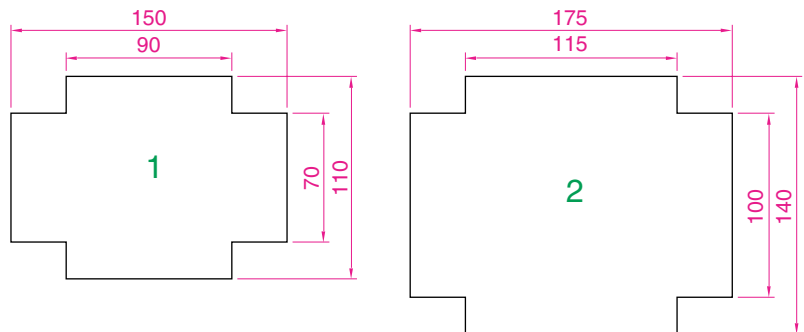

Fig. 5.55 Exercise 9
- Construct the left-hand drawing of Fig. 5.55. Include the dimensions in your drawing. Then, using the **Stretch** tool, stretch the drawing, including its dimensions to the sizes as shown in the right-hand drawing. The dimensions are said to be **associative** (see Chapter 6).